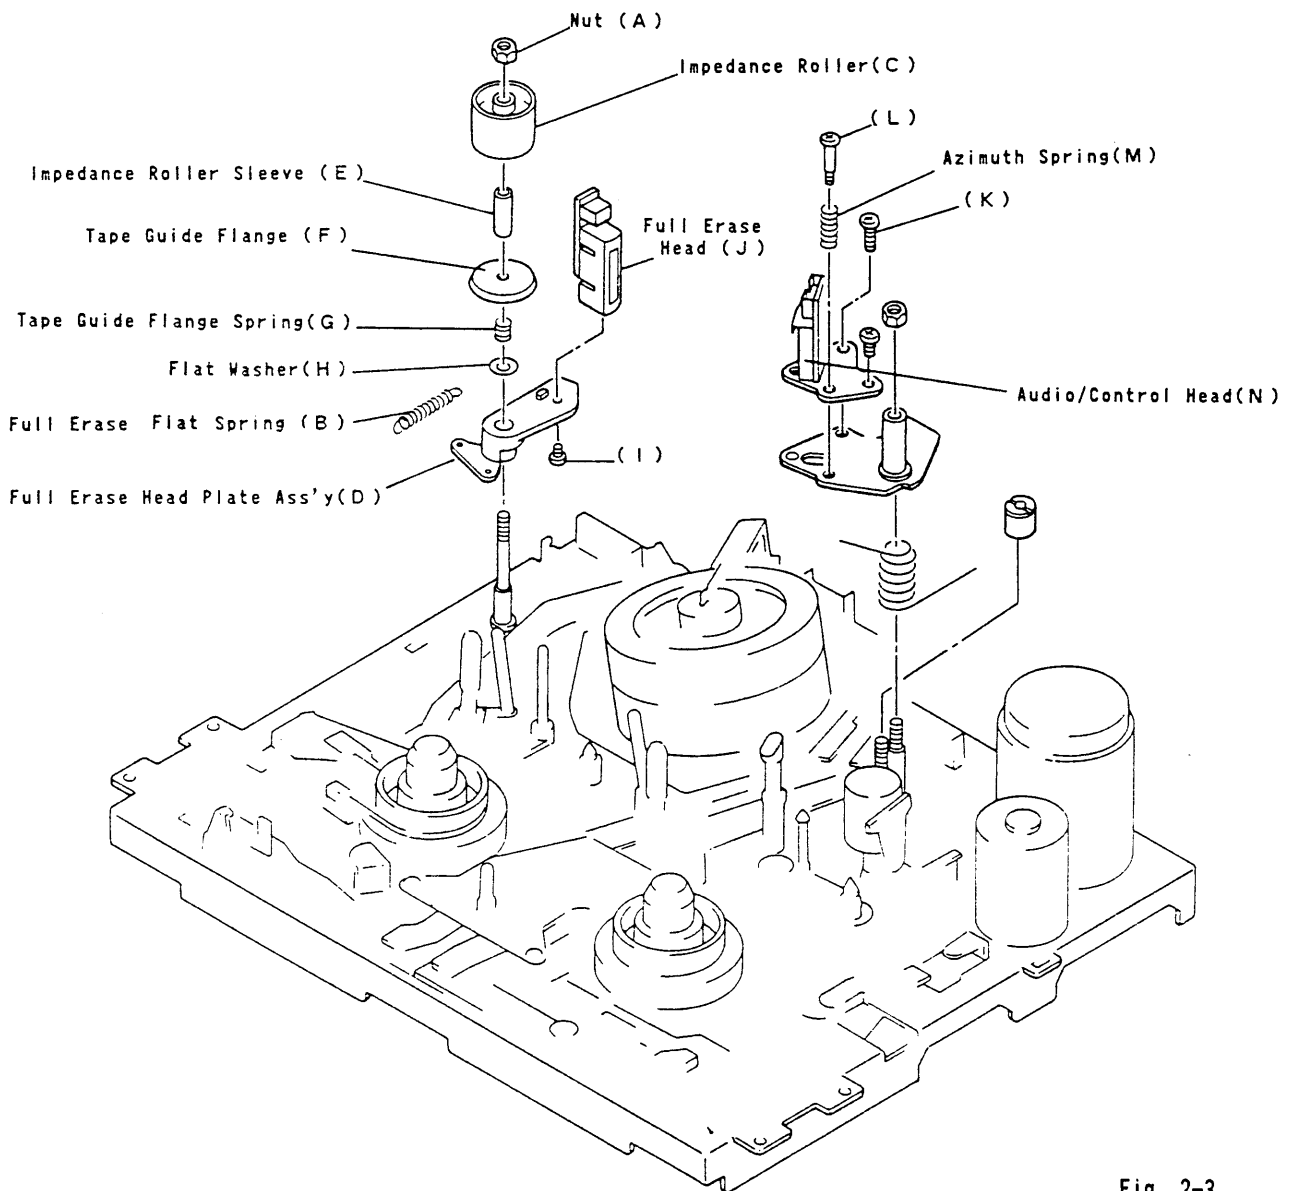

Fig. 2-3
(4) Full Erase Head / Audio Control Head (Fig. 2-3)
Note: When reinstalling the Full Erase Head/Audio Control Head Unit, mechanical adjustments should be performed for proper operation. (Fig. 2-3)